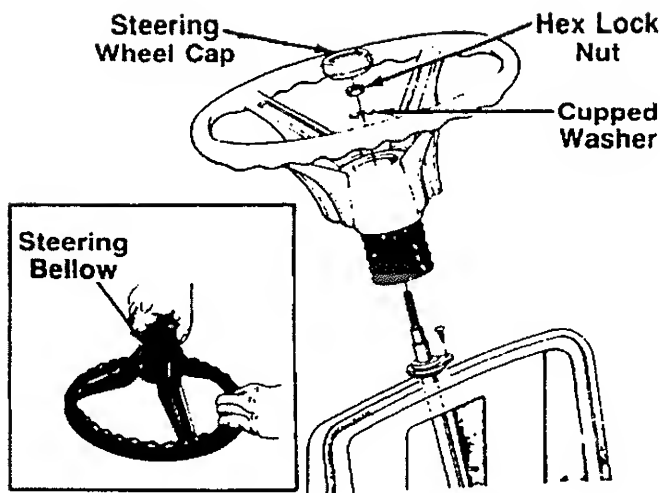

FIGURE 6.
3. Attach one end of steering bellow to the steering wheel as shown in figure 6, inset.
6. Place the washer with the cupped side down over the steering shaft. Secure with 5/16" hex lock nut. See figure 6.